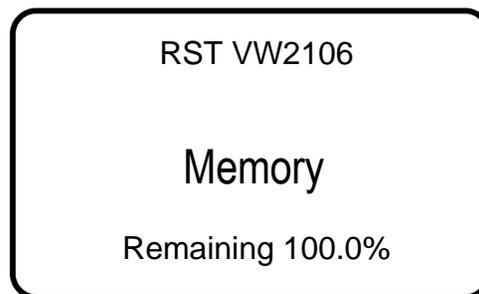

FIGURE 4-2 MEMORY SCREEN
2. Scroll to the **Memory** screen (Figure 4-2) using the up/down arrows and press **Enter**.